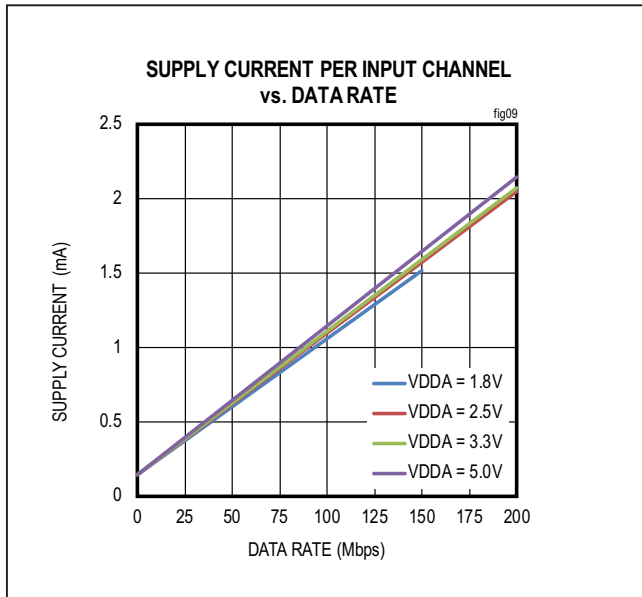
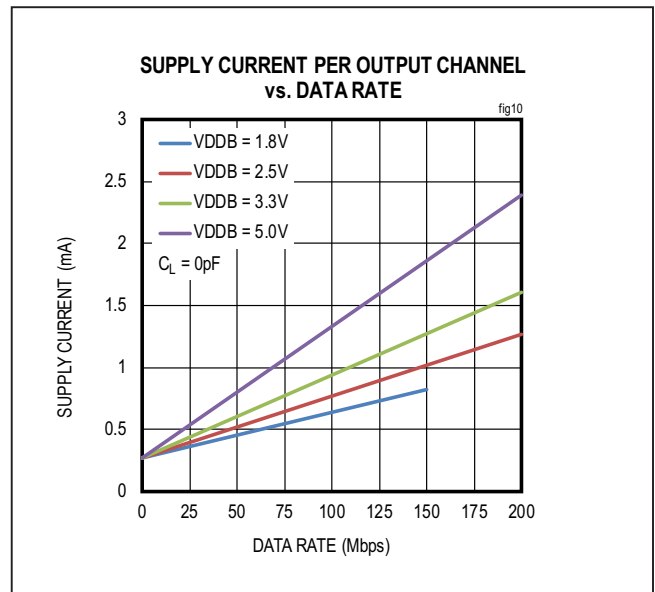

Figure 9. Supply Current Per Input Channel (Estimated)
Figure 10. Supply Current Per Output Channel (Estimated)
The required current for a given supply (VDDA or VDDB) can be estimated by summing the current required for each channel. The supply current for a channel depends on whether the channel is an input or an output, the channel's data rate, and the capacitive or resistive load if it is an output. The typical current for an input or output at any data rate can be estimated from the graphs in Figure 9 and Figure 10. Please note the data in Figure 9 and Figure 10 are extrapolated from the supply current measurements in a typical operating condition.
The total current for a single channel is the sum of the “no load” current (shown in Figure 9 and Figure 10) which is a function of Voltage and Data Rate, and the “load current,” which depends on the type of load. Current into a capacitive load is a function of the load capacitance, the switching frequency, and the supply voltage.
- Channel 1 is an input channel operating at 2.5V and 20Mbps, consuming 0.33mA, estimated from Figure 9.
- Channel 2 and 3 are input channels operating at 2.5V with DC signal, consuming 0.14mA, estimated from Figure 9.
- Channel 4 is an output channel operating at 2.5V and 100Mbps, consuming 0.77mA, estimated from Figure 10.
- Channel 1 is an output channel operating at 3.3V and 20Mbps, consuming 0.40mA, estimated from Figure 10.
- Channel 2 and 3 are output channels operating at 3.3V with DC signal, consuming 0.27mA, estimated from Figure 10.
- Channel 4 is an input channel operating at 3.3V and 100Mbps, consuming 1.11mA, estimated from Figure 9.